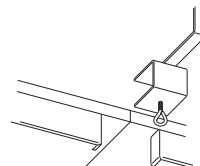

Figure 15
4. Attach net posts and net to table as shown in Figure 15.